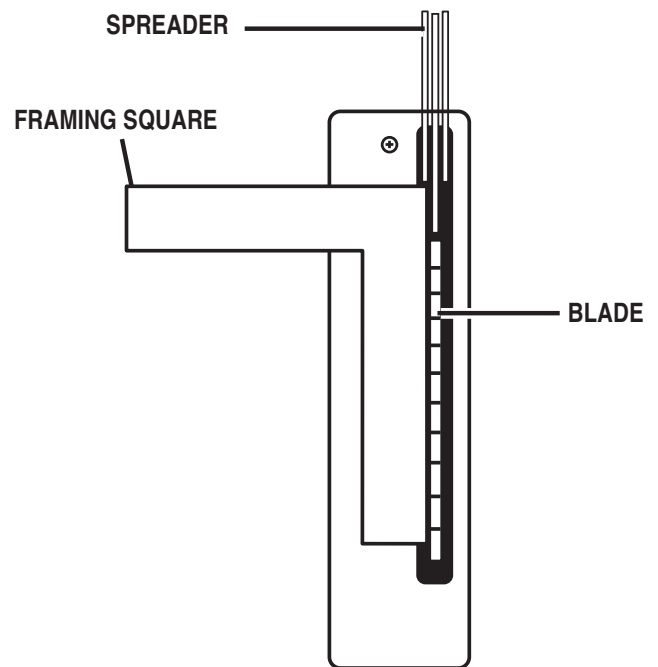

Fig. 39
- Center the spreader over the blade. See Figure 39.